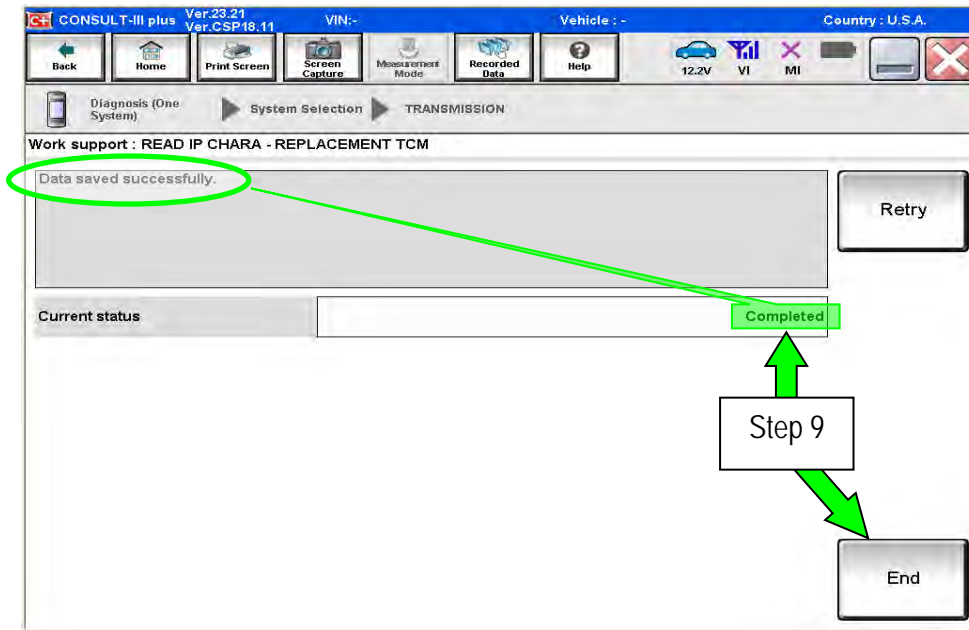

Figure A4
- When the calibration data has been saved to the CONSULT PC, the message “Data saved successfully” will be displayed and **Current status** will indicate **Completed** (see Figure A4).